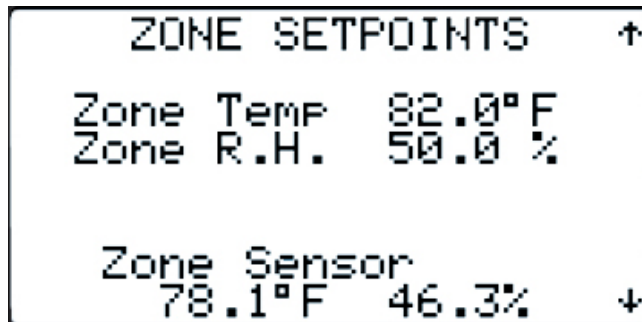

Figure 2
2.2 Zone Setpoints (Figure 2)
Pressing the **Prg** key from the Home Screen displays the ZONE SETPOINTS (Figure 2). This menu displays the standard adjustable temperature and humidity setpoints specific to the unit. At the bottom of the screen the current values taken from the local zone sensor can be seen.